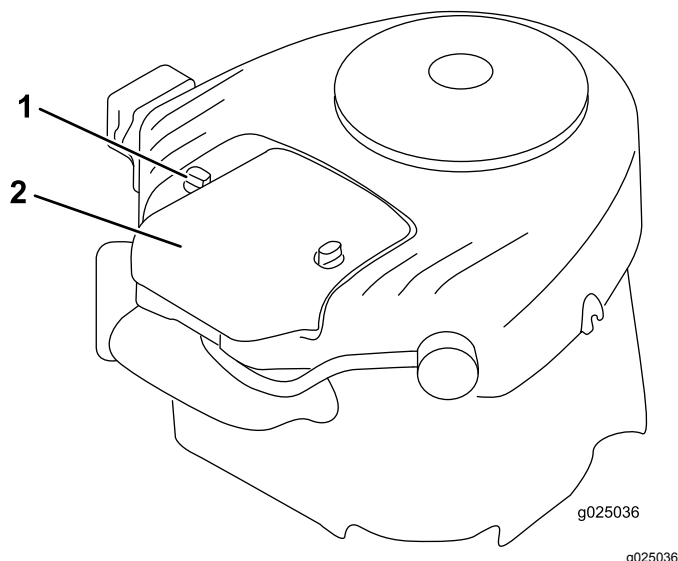

Figure 22
2. Unscrew the knobs and remove the air filter cover (Figure 22).
2. Install the air filter cover and knobs (Figure 22).